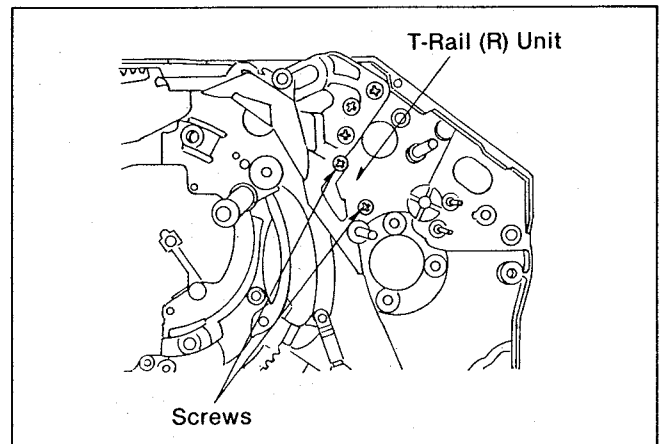

Fig. M8
(2). Install the T-Rail(R) Unit as shown in Fig.M8.